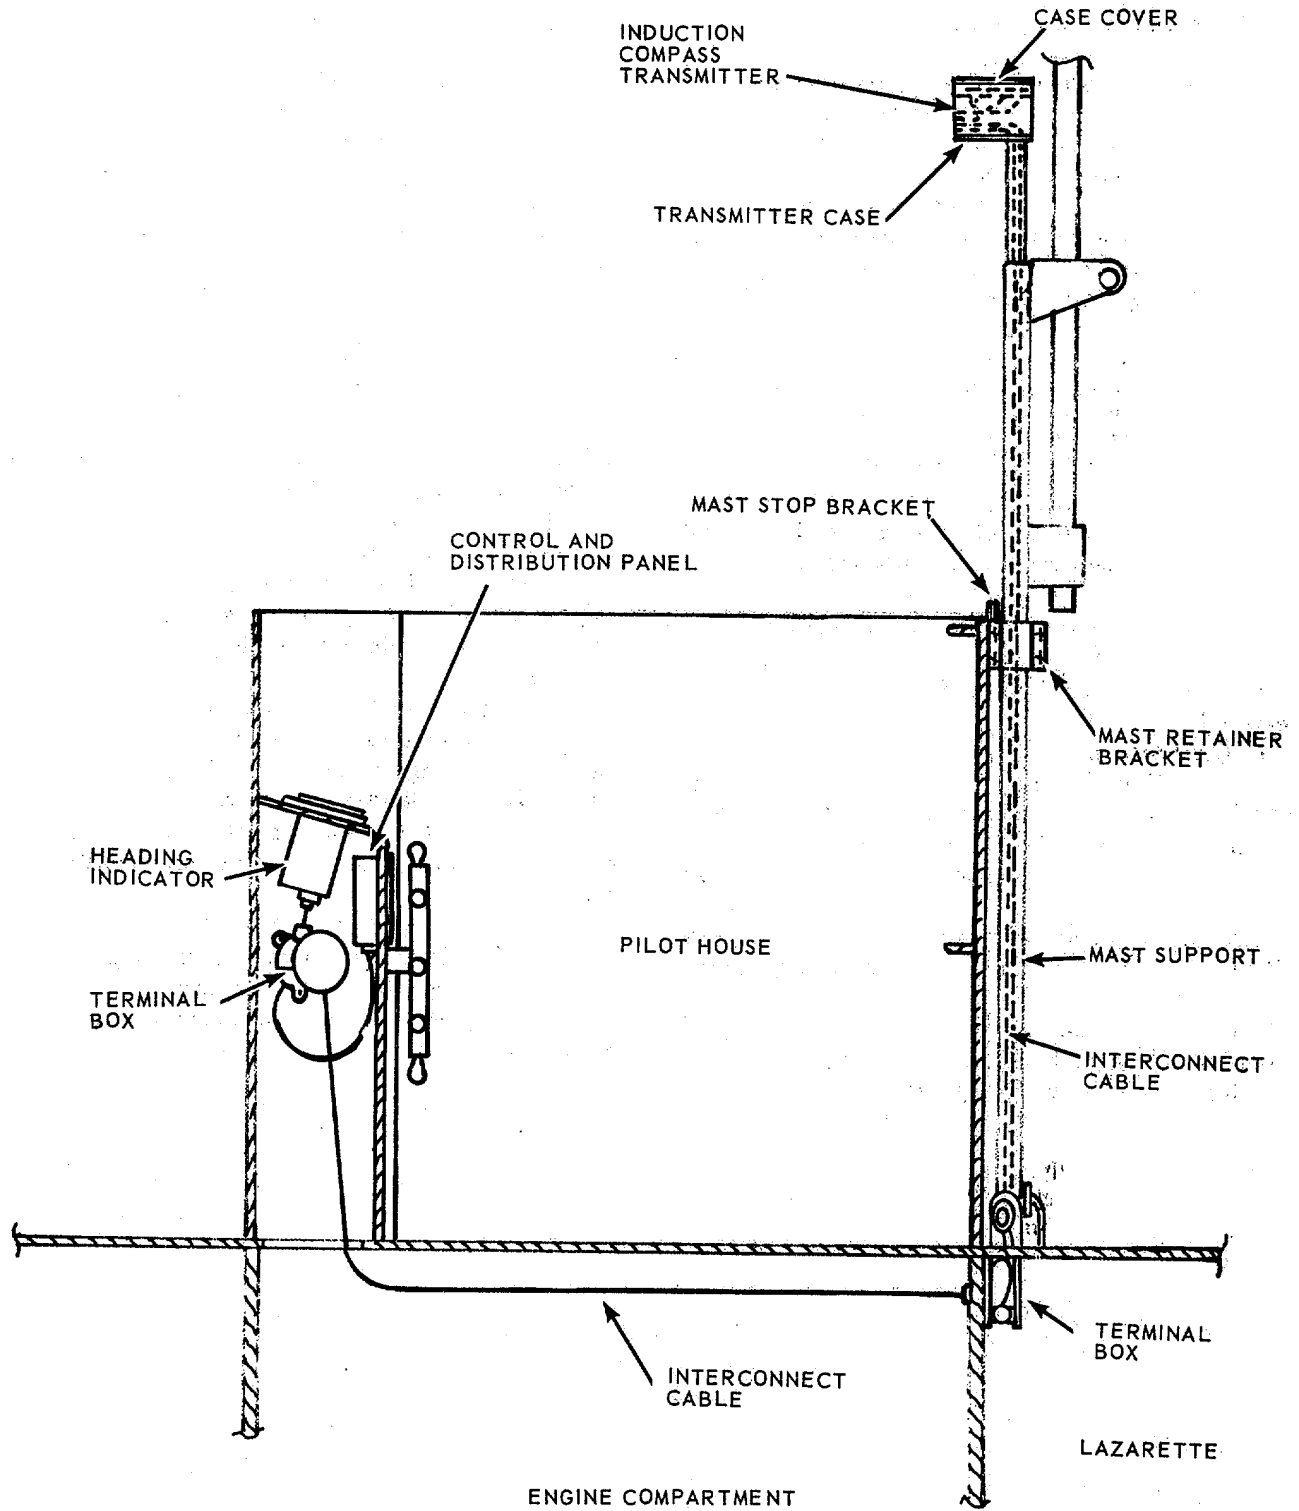

Figure 6-5. Remote magnetic heading system (hulls 8540-8560 and 8580-8618).
- a. Removal.* Refer to Figure 6-5 and proceed as follows: